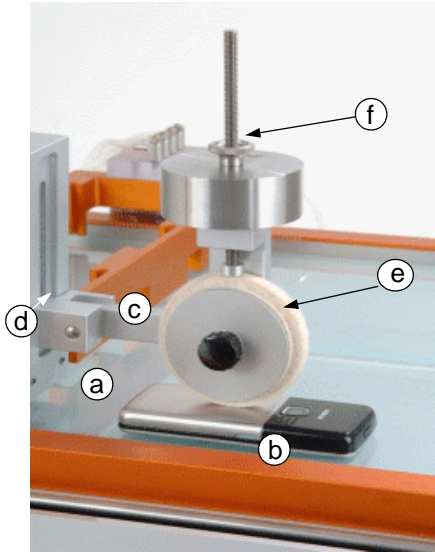

Figure 11. Tool 10
2. Mount the tool on the carriage of the tester (Figure 11) and tighten the two screws (a).